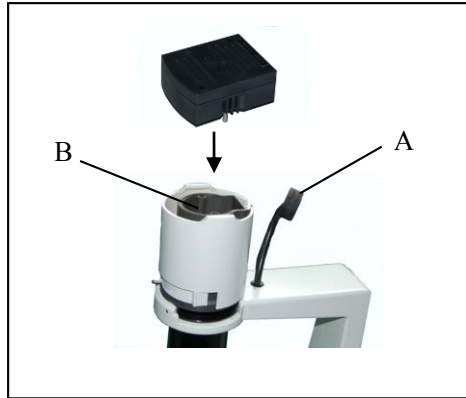

Fig 4
2.2.4 Installing lamp house (fig4, fig5)